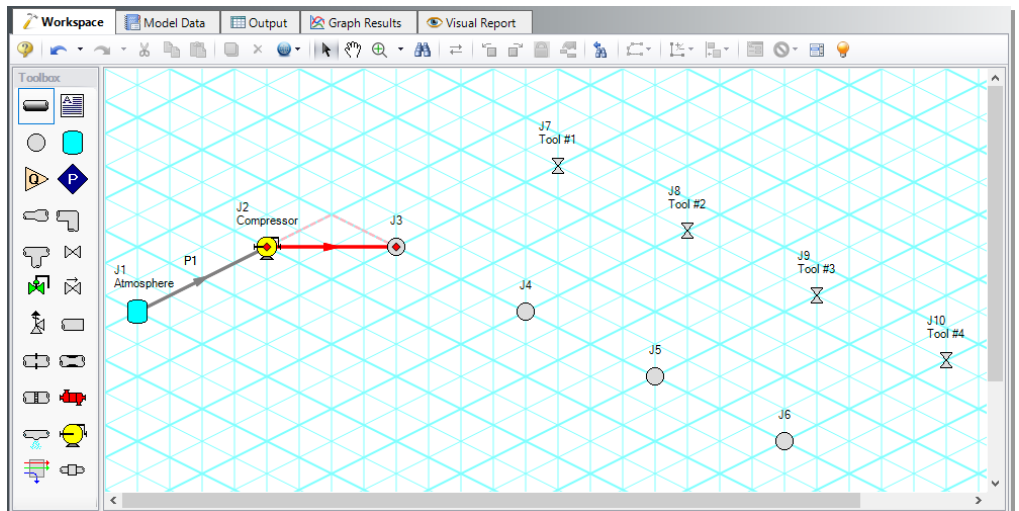

Figure 3.19 A preview line shows when drawing or adjusting pipes
6. Draw P1, as shown in Figure 3.19.
7. Draw P2 from J2 to J3. A red-dashed preview line will show how the pipe will be drawn on the isometric grid. As you are drawing a pipe, you can change the preview line by clicking any arrow key on your keyboard or scrolling the scroll wheel on your mouse. Figure 3.19 shows Pipe 2 being drawn with the preview line.